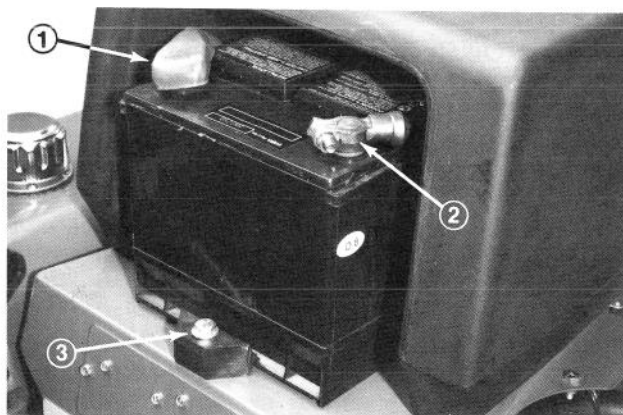

Figure 3
1. Ensure battery is securely fastened in place and check battery charge with a hydrometer (Fig. 3). If battery needs charging, be sure at least one battery
2. If battery required charging, install the negative cable when charging is completed (Fig. 3).
3. Coat the terminal with sealant such as Grafo 112X, Toro Part No. 505-47 (Fig. 3).